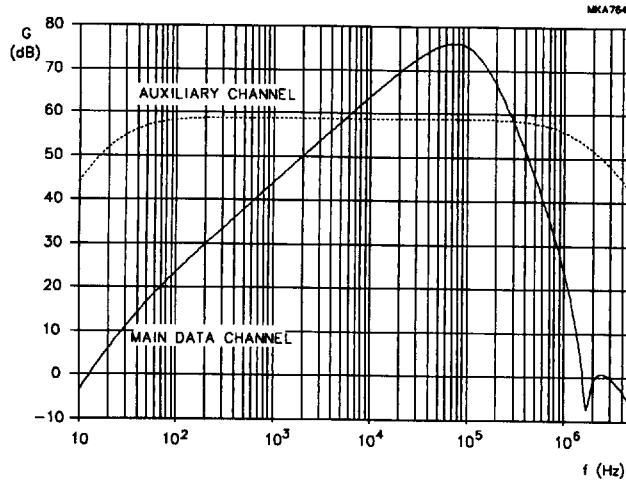

Fig.5 Typical gain of the auxiliary and main data channel (AGC off).
- Gain relative to gain at $f_i = 50 \text{ kHz}$ (see Fig.5).